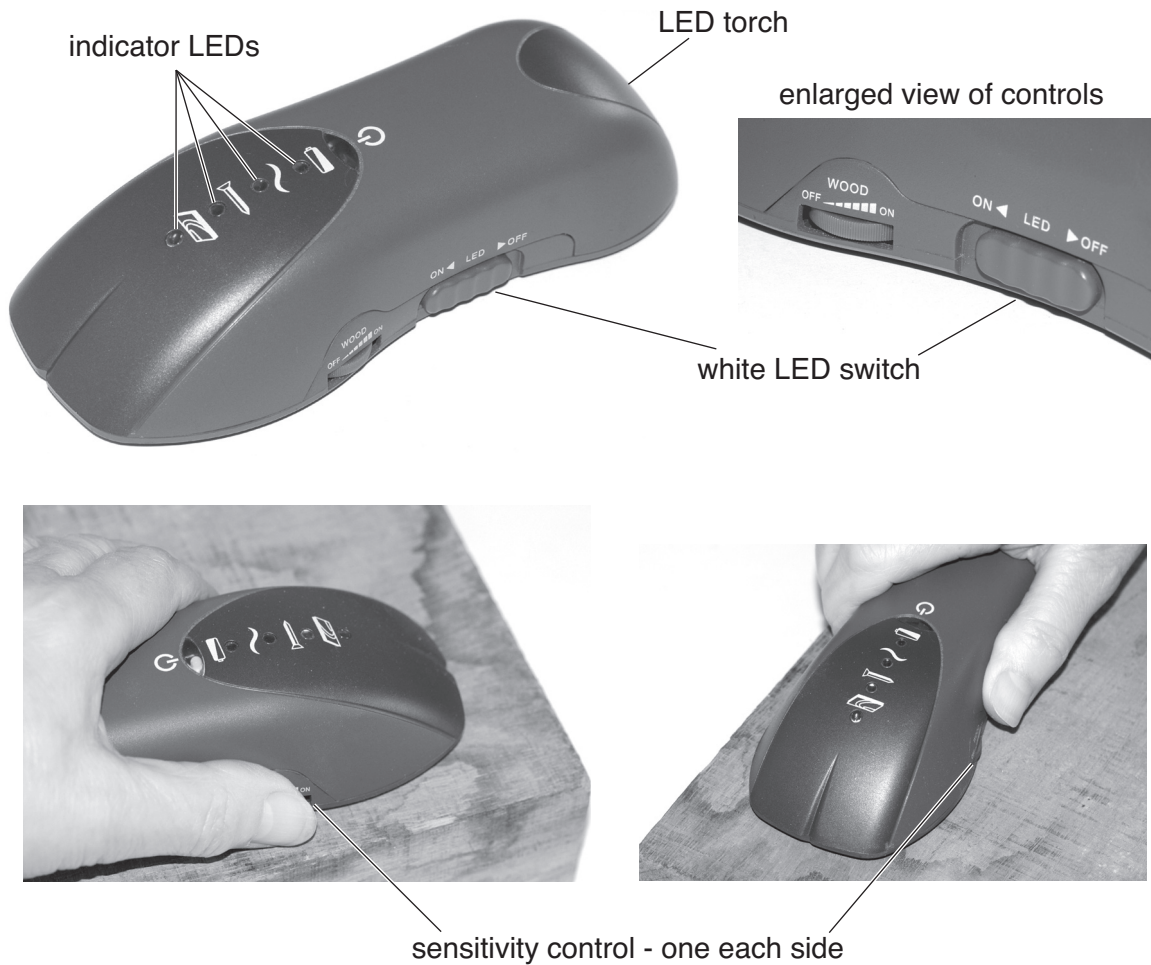

Fig. 17
- 5 Fig. 17 shows a hand held detector used for finding concealed mains cable, other metals and timber framing. The device is powered by a 9V battery and includes a white LED torch.
- (ii) State why the symbols next to the indicator LEDs and controls in Fig. 17 must have been applied after the moulding had taken place.